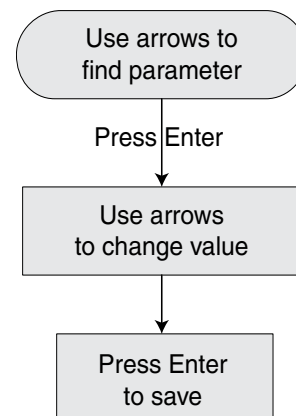

Figure 12 - Changing parameter value.
- B. Follow the keypress sequence shown in Figure 12:
The password locks or unlocks the blue buttons on keypad. All Pentek Intellidrive units are shipped from factory with the default password 7777. It can be changed to any other 1 to 4 digit number. To reset password to a unique password for unit, unlock keypad (see below) and follow the keypress sequence shown in Figure 12 to make the change.